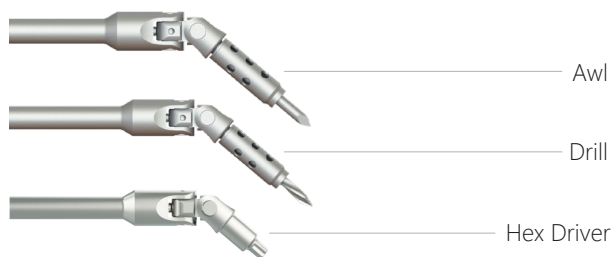

Figure 9c
- Poly Angle instrumentation includes the Self-Guided Poly Angle Awl, Self-Guided Poly Angle Drill, and Poly Angle Hex Driver (Screw Inserter) (Figure 9c).